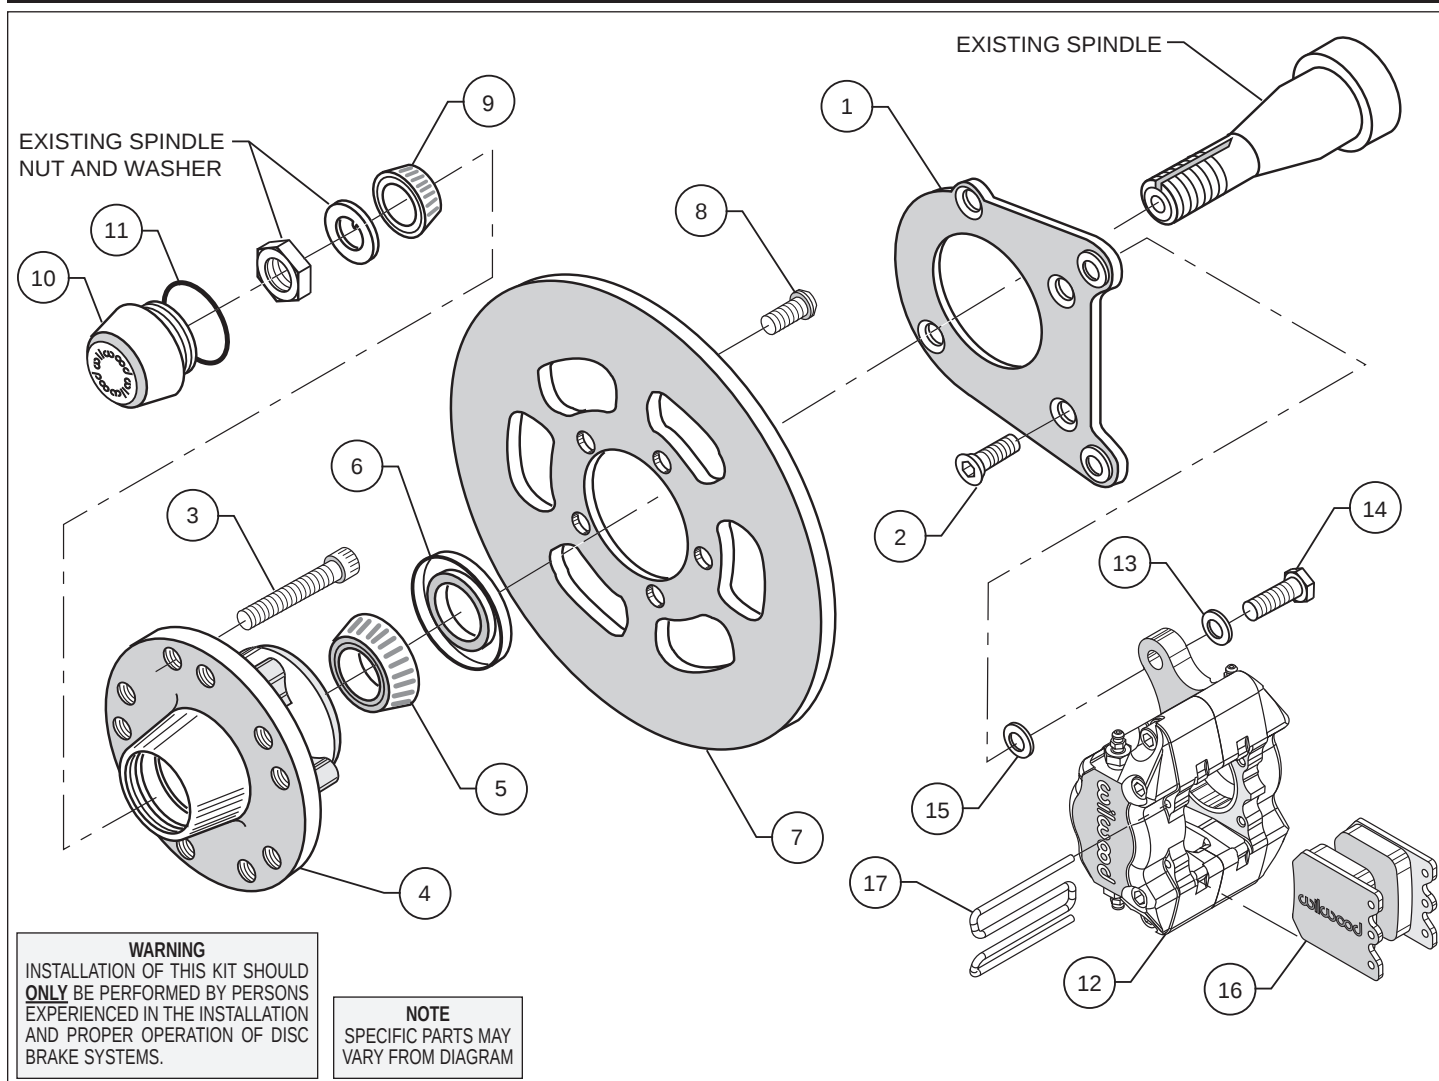
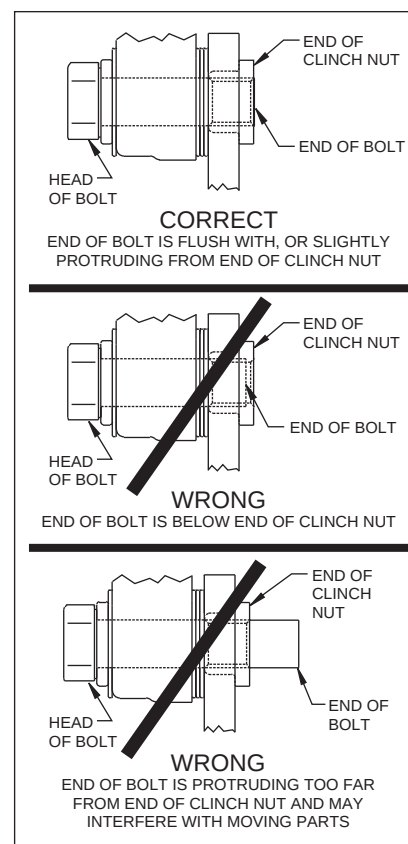

Figure 1. Typical Installation Configuration
Figure 4.
- To accommodate several model years, multiple holes have been drilled in the caliper mounting bracket (1). Rotate the bracket until the two correct holes that align with the mounting holes in the face of the spindle are located. Apply red *Loctite*® 271 to bolt threads (2) before assembly of the caliper mounting bracket (1). Mount bracket (1) to dust face plate of spindle using bolts (2). Torque bolts (2) to 22 ft-lb. **NOTE:** Be sure the heads of the caliper bracket (1) insert nuts are facing outward toward the wheel.
- Install wheel studs (3) into the hub (4). Torque to 77 ft-lb. **NOTE:** There are two five lug patterns in the hub (5 x 4.50 and 5 x 4.75). Make sure of the correct hole pattern for the correct wheel application before installing studs into hub.
- Pack the large inner bearing cone (5) with high temperature disc brake bearing grease (available from your local auto parts store) and install into the backside of the hub (4).
- Install the grease seal (6) by pressing into the backside of the hub (4).
- Mount rotor (7) to hub (4) using bolts (8), as shown in Figure 1. Using an alternating sequence, apply red *Loctite*® 271 to the threads and torque to 45 ft-lb. **NOTE:** The counterbored side of the steel rotor (7) should face away from the hub (4).
- Pack the small outer bearing cone (9) with high temperature disc brake bearing grease and install into front of hub (4). Slide the hub/rotor assembly (4 and 7) with outer bearing cone (9) onto the spindle. Secure using stock washer, adjusting nut and nut locking device. Adjust bearings per Original Equipment Manufacturer (OEM) specifications.
- Install the dust cap (10) onto the hub (4). Friction created by the o-ring (11) on the dust cap (10) keeps it from unscrewing. The O.D. of the existing spindle washer may be larger than the I.D. of the dust cap (11) not allowing it to seat against the hub face. Some grinding on the washer O.D. may be necessary to clear the I.D. of the dust cap (10).
- NOTE:** Please reference the caution statement at the beginning of the assembly instructions. With the bleed screws pointing up, mount the caliper (12) onto the caliper bracket (1) using washers (13) and bolts (14). Finger tighten. View the rotor (7) through the top opening of the caliper (12). The rotor (7) should be aligned in the center of the caliper (12). If not, adjust the caliper (12) by using 0.032 inch thick shims (15) placed between the caliper mounting bracket (1) and the caliper (12). Use as many shims as necessary to obtain the correct alignment. Finger tighten. **NOTE:** The end of the bolt must be flush with or slightly protruding from the head of the clinch nut. See Figure 4. Place spare shims (15) between washer and caliper mounting ear to achieve the proper mounting fastener